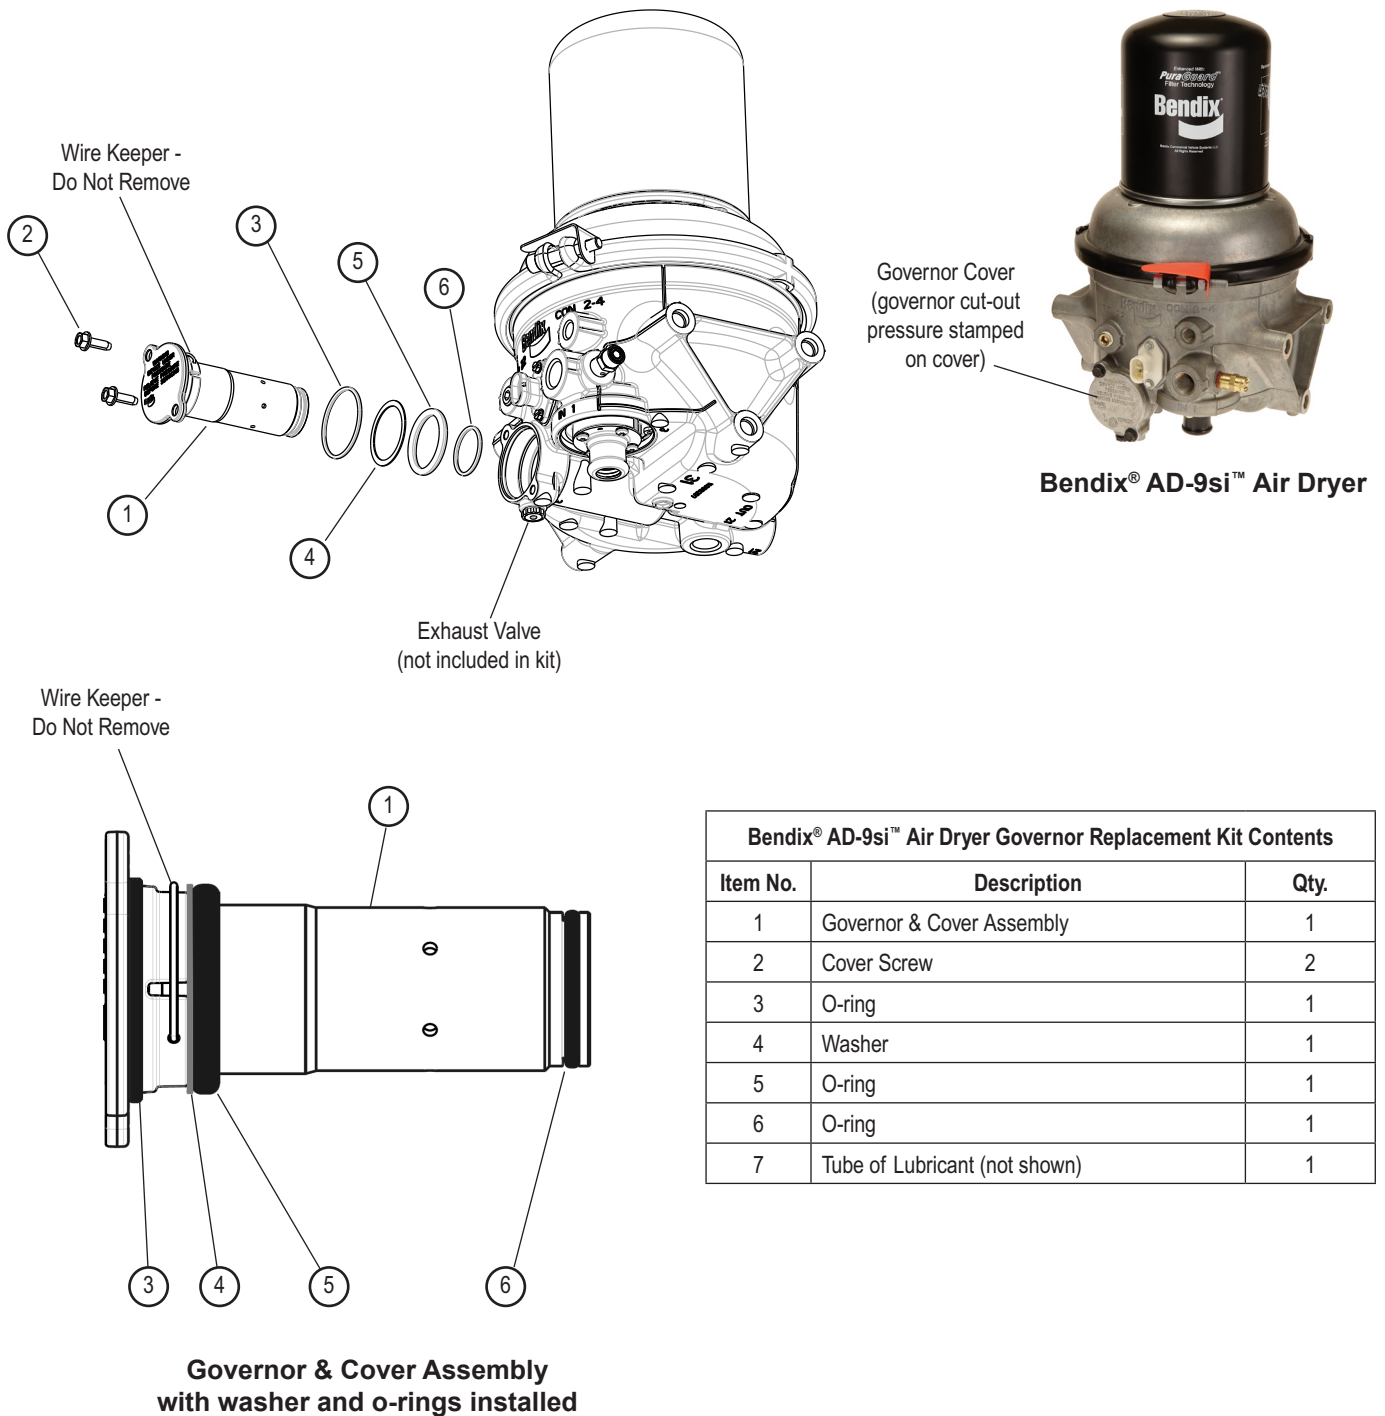

Figure 1 **Bendix® AD-9si™ Governor Replacement Kit**
### **BENDIX® AD-9si™ AIR DRYER GOVERNOR CARTRIDGE REMOVAL** (Refer to Figure 1)
### **INSTALLATION** (Refer to Figure 1)
1. Prior to installation, verify that the pressure setting stamped on the governor assembly cover (1) matches the setting stamped on the removed governor assembly.
2. Using the lubricant (7) included in this kit, lubricate the governor bore, all three o-rings and their grooves.
3. Install o-ring (3), washer (4), o-ring (5) and o-ring (6) on the governor and cover assembly (1). Ensure all o-rings are properly installed and located as shown in Figure 1.
4. Install the governor and cover assembly (1) into the AD-9si air dryer body. Position the cover so that the text is upright and the governor cover mounting holes align with the mounting holes in the air dryer housing. Gently push the assembly against the air dryer body to ensure that the governor and cover assembly (1) will seat properly when the mounting screws are installed. Secure the assembly with the two mounting screws (2) contained in this kit. Torque to 85-125 in-lbs. Do not use the cover screws to force the cover against the body.